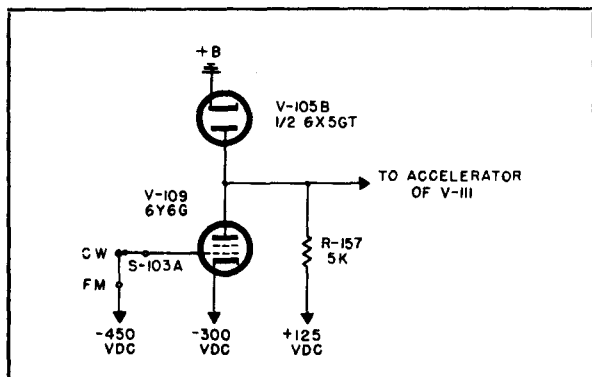

Figure 3-17. Switching Arrangement for CW and FM Operation
*g. CW and FM OPERATION.*-On both CW and frequency-modulated CW of the reflex klystron oscillator (figure 3-17), the grid of V-109 is tied to a point below cut-off so that the plate of V-109 is at a high dc potential with respect to the cathode of V-111. Since the plate of V-109 is directly connected to the accelerator grid of the reflex klystron, and since the grid of the klystron is at a potential high enough to allow the tube to oscillate, continuous wave oscillation of the klystron occurs.